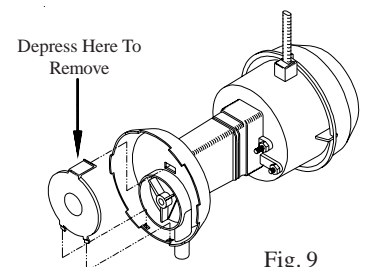

Fig. 9
• **Clean pump.** Cleaning the pump is necessary once a year at start-up. For your safety, turn unit off and unplug from power receptacle. Remove the pump from the mount slot. Remove the base of the pump as shown in Fig. 9. Clean the pump and turn the impeller to ensure free operation. Remove the pump spout and check for any blockage. After cleaning, reinstall the base onto the pump. Reattach the pump to the mount in the cooler using the plastic retainer to ensure that the pump will not overturn. Do not forget to replace the spout and water delivery tube onto the pump outlet.